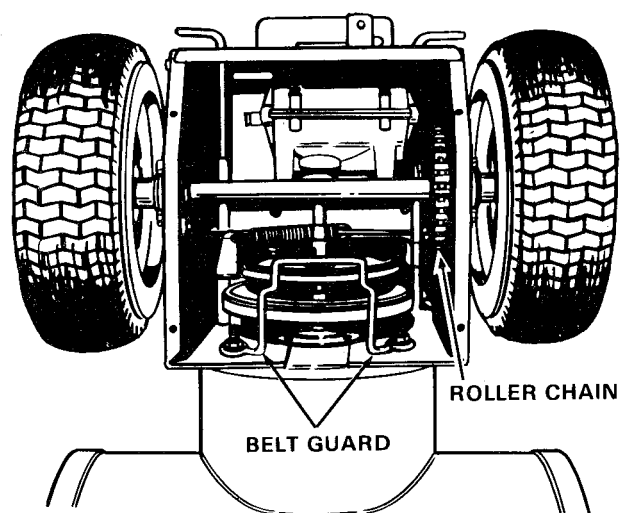

Figure 7. Drive Belt Replacement
6. Loosen nuts holding lower belt guard (figure 7) and slide guard away from belt.
7. Loosen nuts holding lower belt guard (figure 7) and slide guard away from belt.